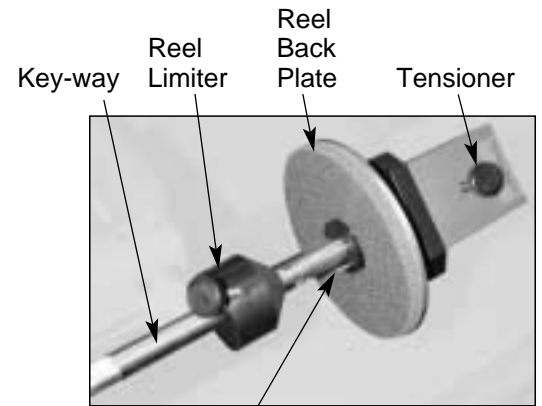

Fig. 1a
3. Install full reel at left side with components feeding from top of reel. Insure that 2 pins in Back Plate fit into both reels. (refer to Fig.1a, Pg. 2)
14. Adjust tensioners so that reels don't backspin (Fig. 1a)
12. Adjust tensioners so that reels don't backspin (Fig. 1a)